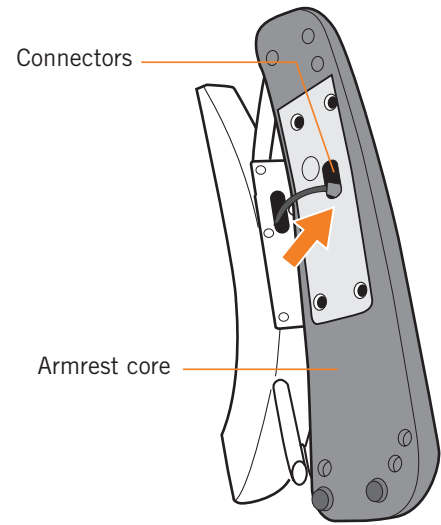

Fig.7
3. Push the connectors and cable into the armrest core (Fig.7).